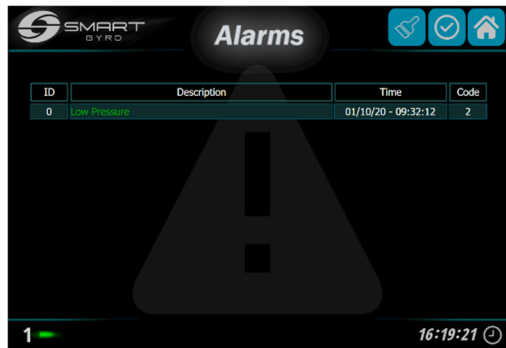

Figure 32
Alarms not present anymore in the system can be removed from the list (**Figure 32**), pressing the paint brush symbol icon (**Figure 29, (3)**).